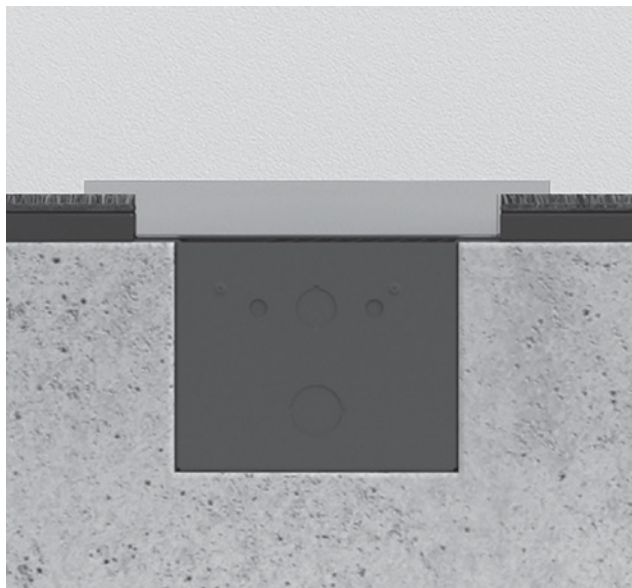

Figure 5B: Concrete Pour – Surface Grille
- b. Surface Mount: trim package may rest on top of flooring, including carpeting and linoleum. See Figure 5B.